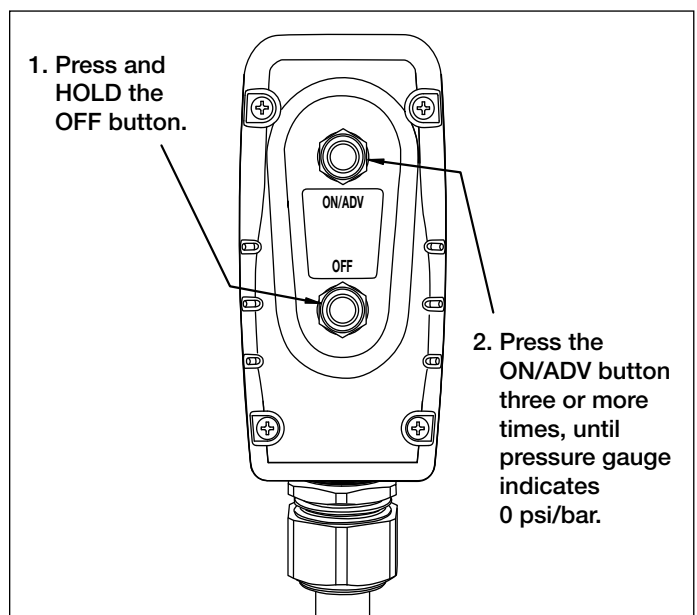

Figure 9, Relieving Pressure
- Press and hold the "OFF" button. See Figure 9.